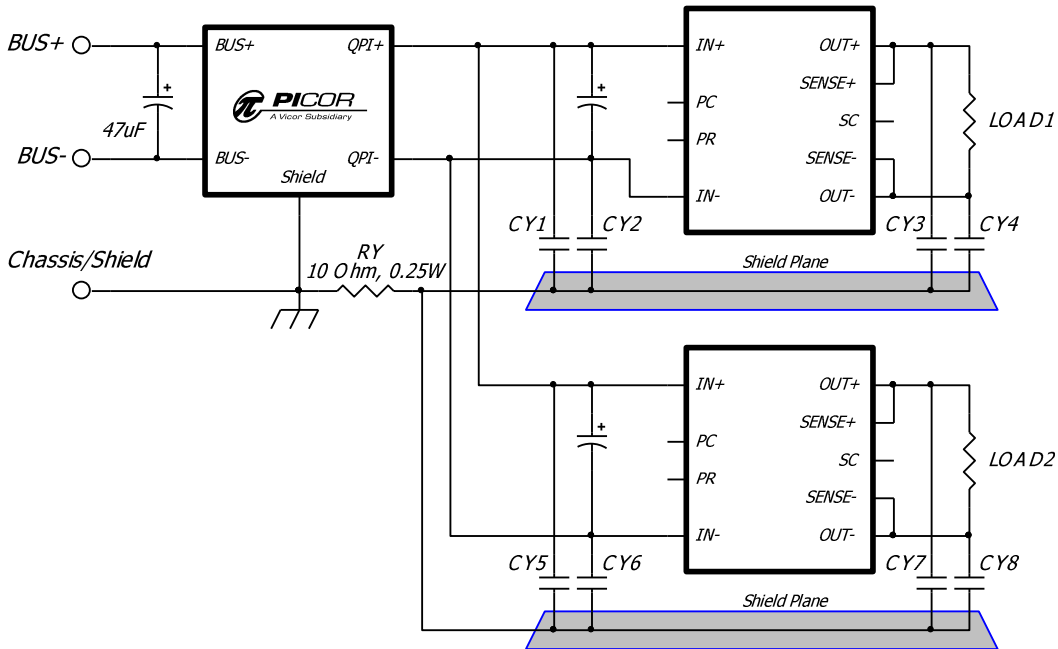

**Figure 10** - Current de-rating and power dissipation over ambient temperature range.
- -40° to +125°C Ambient temperature (see Figure 10)
Note 2: See Figure 10 for the current de-rating curve.
The de-rating curve in Figure 10 is based on the maximum allowable internal component temperature and the 14A maximum rating of the QPI-5. The power dissipation curve is based on the current squared multiplied by the internal